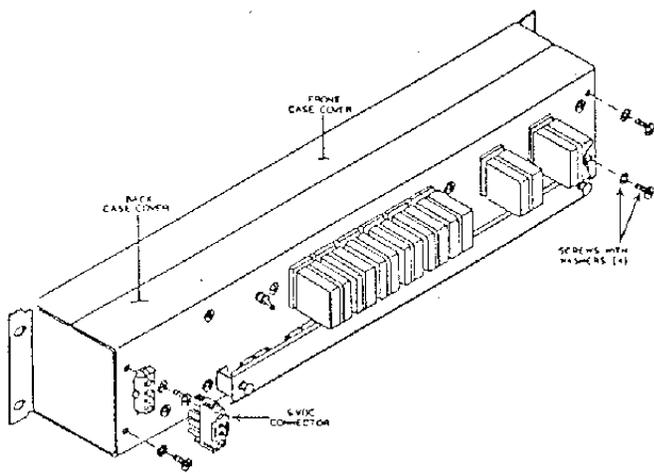

Figure 1
3. Locate and remove the four (4) screws with washers on the back case cover. (See Figure 1.)
12. Replace the back case cover, arranging the wiring smoothly. Replace the four (4) screws and washers. (See Figure 1.)
13. Connect the 6VDC battery connector. (See Figure 1.)